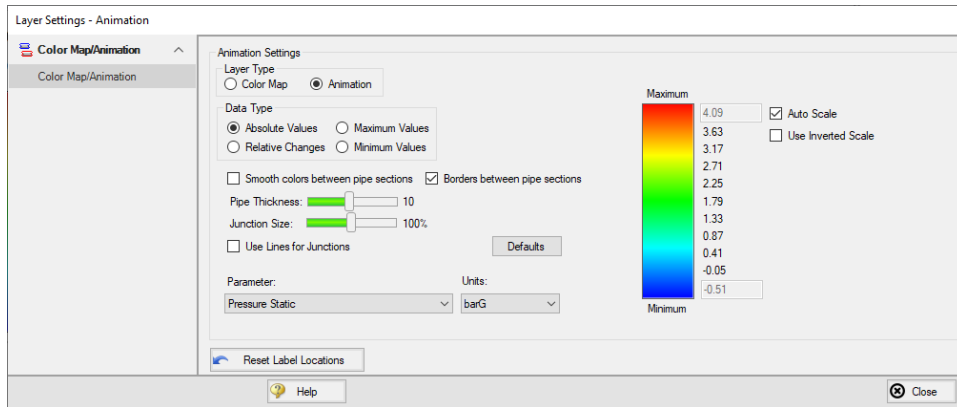

Figure 32: *Workspace Layers provides an animation feature as an alternate way to view the transient results*
- **Select Pressure Static as the parameter for the animation using units of barG.** The model setup for animating static pressure can be seen in Figure 32.